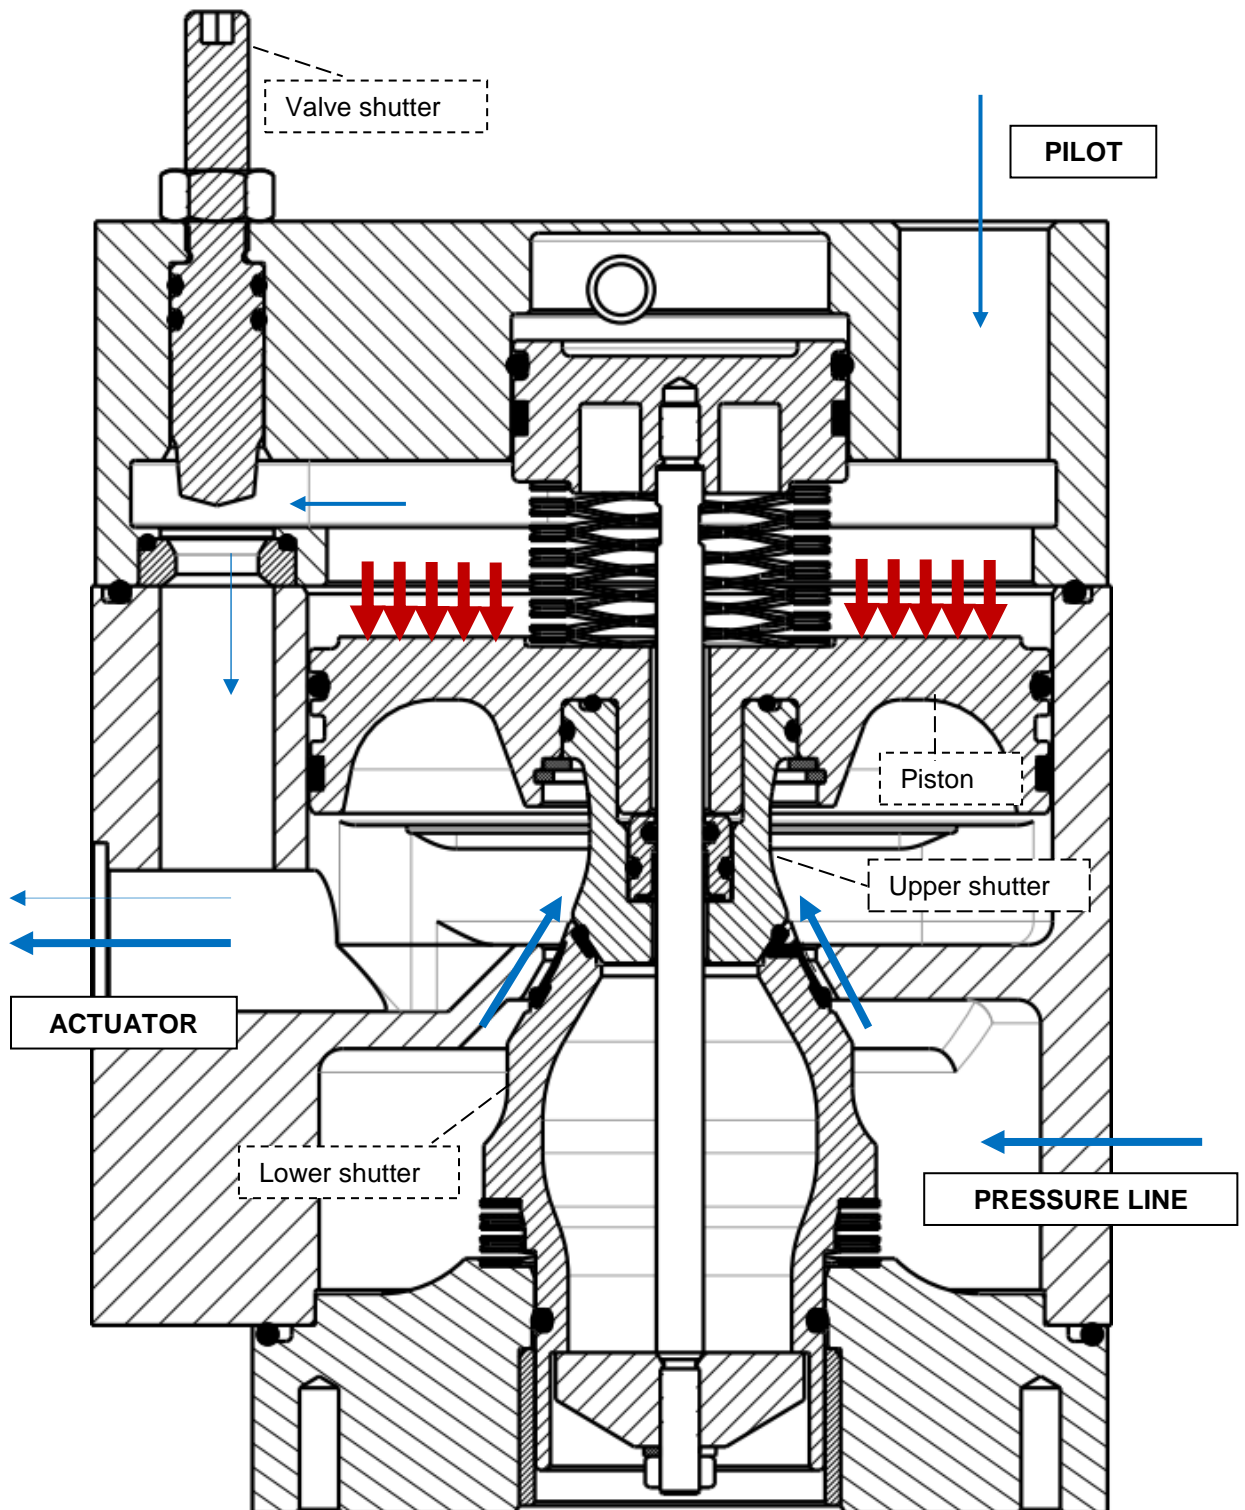

Figure 5 – charge setup: modulating mode
- b) if the flow rate is greater than a threshold value depending on valve shutter adjustment, the valve shutter throttling generates a pressure drop between the two side of the piston and the working fluid pushes down the piston and the lower shutter, allowing the connection between the BV supply chamber and the actuator chamber. This case is called "modulating mode" (figure 5);